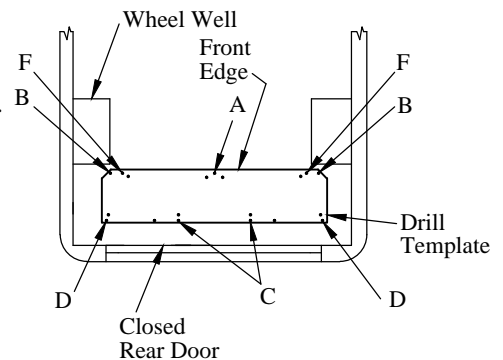

Figure 7: Drill location (top view).
15. Drill 3/8" holes in eight (8) locations in the template. Drill "B", "C", "D", and "F" locations only, skip all others (Figure 7).